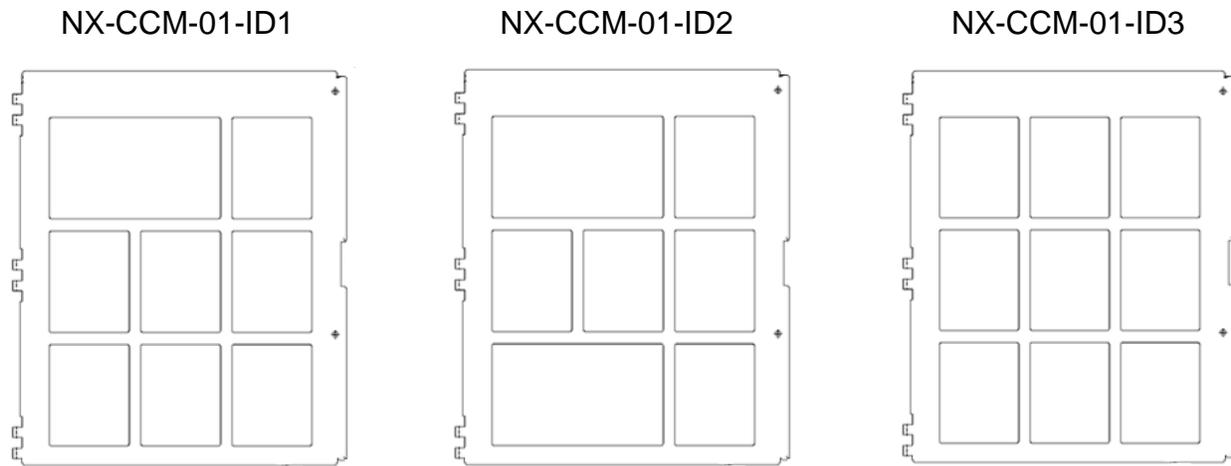

Figure 5 – NX CCM-01 Modular Command Center Inner Doors
There are three (3) inner door options available for the NX-CC01-BB modular command center (see figure 5). As previously stated, the NX-FACC-1 is preassembled with the NX-CC01-BB-ID1 inner door.